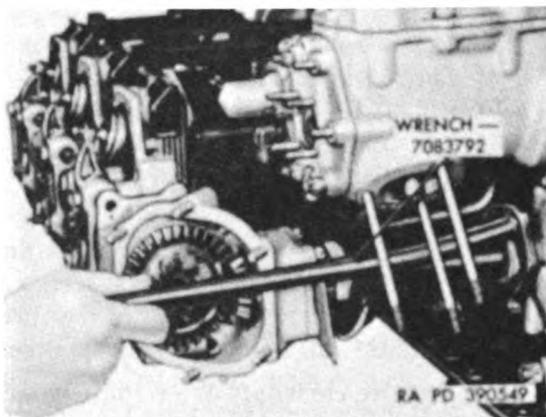

Figure 45. Removing or installing camshaft drive housing inner packing nut.
- (4) Cut locking wire and remove camshaft drive housing inner packing nut with wrench 7083792 (fig. 45).
- (5) Cut locking wire and remove 12 hex-head bolts and flat washers securing left camshaft bearing caps and valve